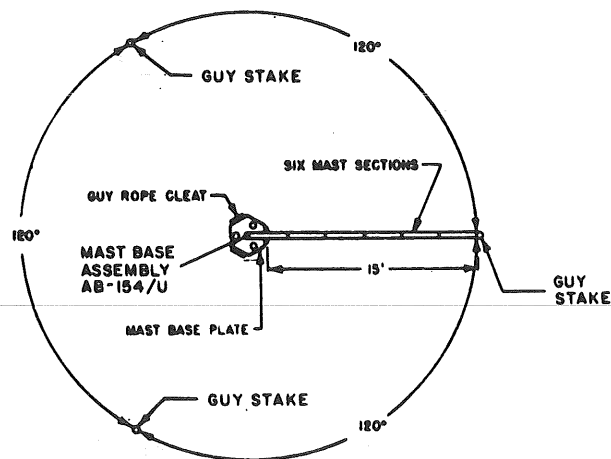
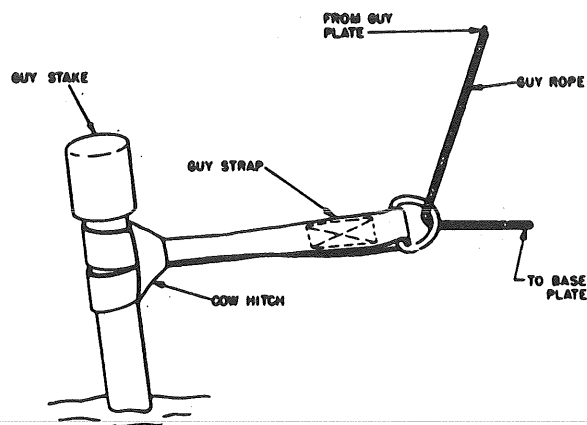

Figure 2. Positioning Guy Stakes.
Figure 3. Attaching guy strap to guy stake.
2. Lay out installation site (fig 2). (Refer to TM 11-5820-348-15, chap 2, sec II, para 2-4, 2-5a(1), p 2-3.)
- d. Drive three guy stakes, 15 feet from the centers of the cleats of the base plate (fig 2).
- (1) Position the assembled mast sections over one base plate cleat.
- (2) At the end of the mast sections, drive a stake at a 45-degree angle facing away from the mast.
- (3) Move the mast sections to the other two cleats and repeat the process.
- (4) Attach a guy strap to each of the guy stakes, using a cow hitch (fig 3).
- (1) Turn guy plates so that one hole is on top.
- (2) Attach two guy ropes to the side holes (open side of snap hook pointing toward mast) of the lower guy plate.
- (3) Pass the guys through the respective guy strap "D"-rings (fig 3) to the base plate cleat.